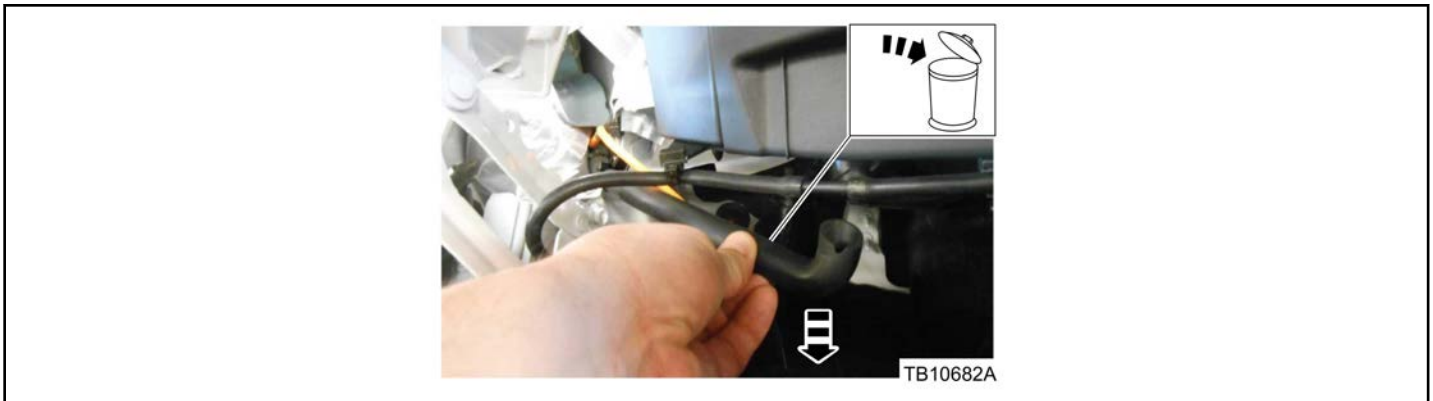

Figure 2 - Article 17-0014
6. Remove and discard the drain hose from the right side of the cowl panel grille. (Figure 2)